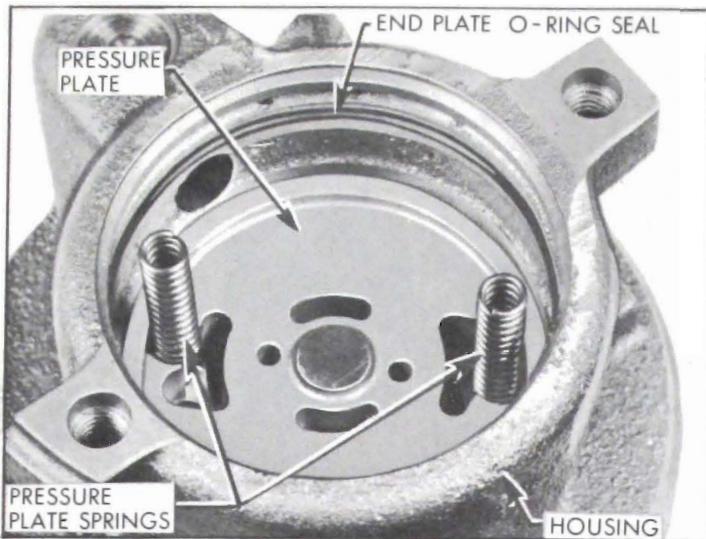

Figure 8-56—Pump Housing With End Plate Removed
8. Remove end plate. End plate is spring loaded and should raise above housing level. If sticking should occur, tap lightly on the end plate with a soft mallet to align it and free it. Remove and discard end plate O-ring seal. See Figure 8-56.